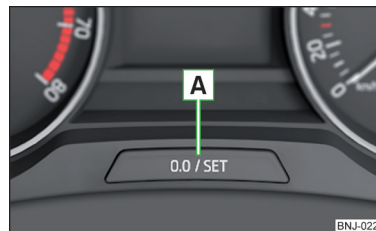

Fig. 41
- Press and hold the button **A** » Fig. 41 until the **Service** menu item is shown in the display.